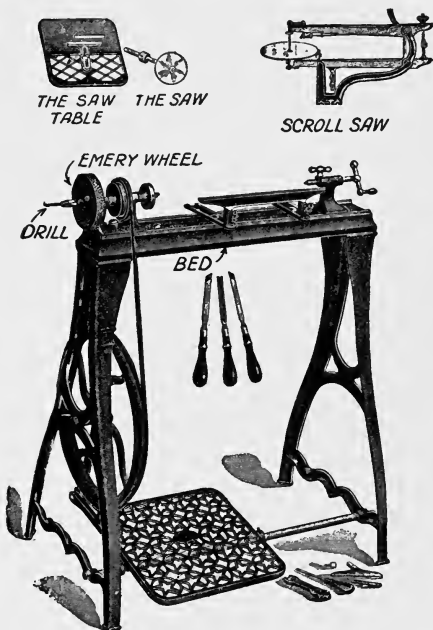

FIG. 17. THE CHEAPEST WOOD TURNING LATHE MADE
by the Millers Falls Company, Millers Falls, N. Y., and it costs \$10.50. It has a long and a short rest, three turning tools and a 2 inch face plate and spur center. When you get it uncrate it, set it up, oil it well and you are ready to do some turning. The lathe is shown complete in Fig. 17.
*Attachments for the Companion Lathe.*—This lathe is fitted with a 4 inch emery wheel without extra charge. A very useful attachment is a circular saw 3 inches in diameter and a saw table 6 x 7 inches with a straight edge guide; it costs \$1.25 extra. A scroll saw attachment that can be clamped on the lathe bed may be bought for \$3.00 extra. Both of these attachments are shown in Fig. 17. Of course better and larger lathes can be had for more money.